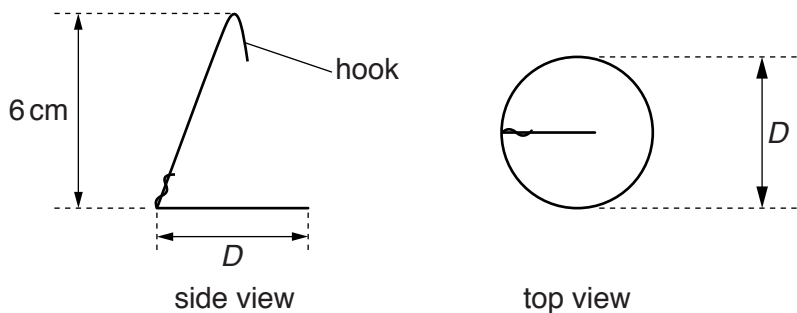

Fig. 2.1 (not to scale)
- 1 Each length of wire should be formed into a circular loop with a hook as shown in Fig. 2.1. Any excess wire should be cut off.